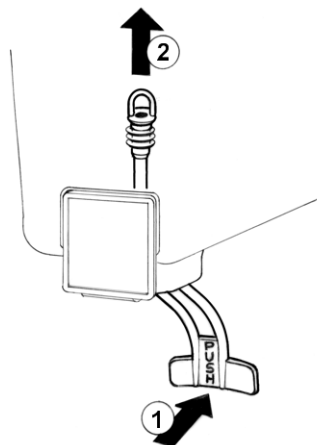

figure 3
- 5 Pinch tube faucet:** push the dispensing handle (1) and
take the pinch tube off from its seat (2) (see figure 3).